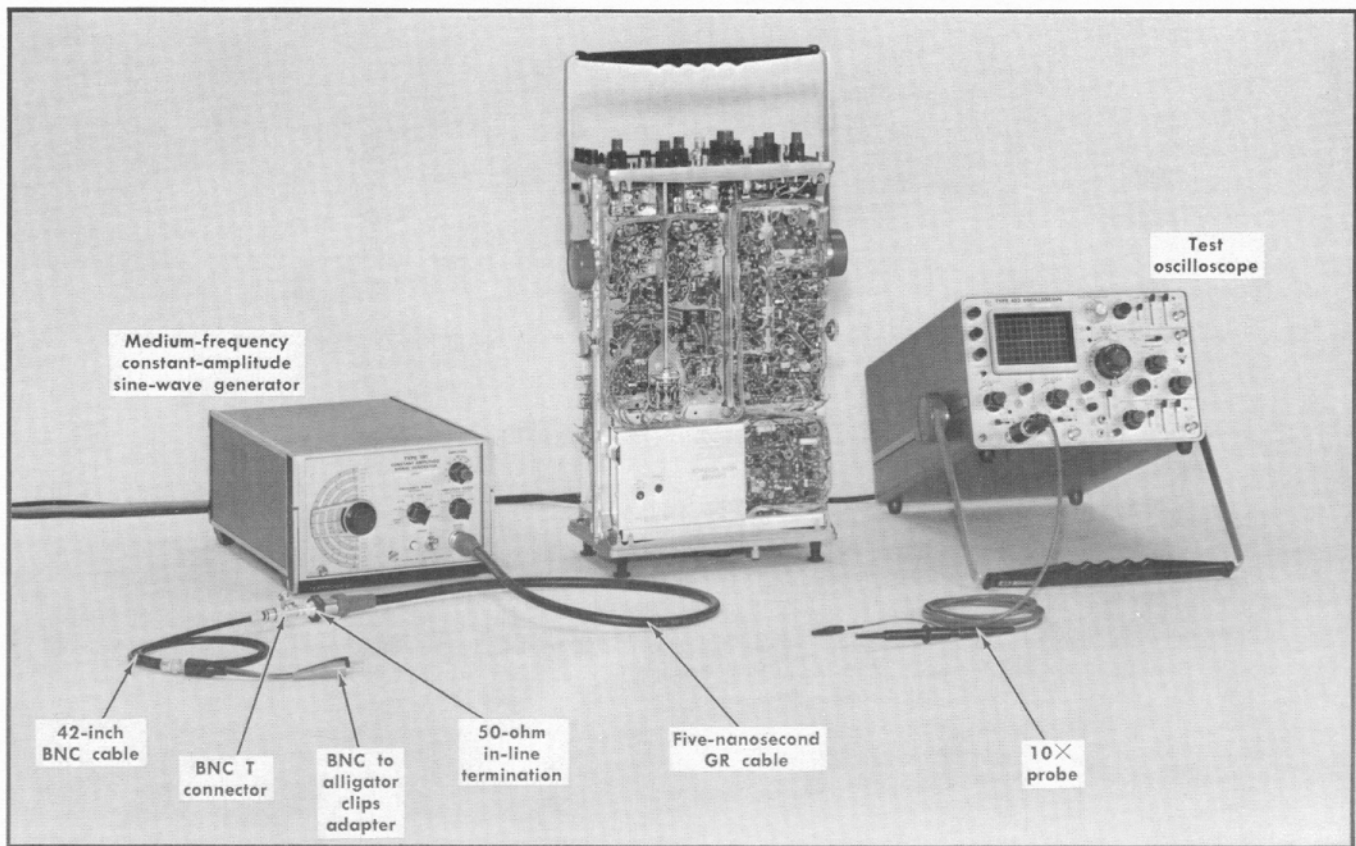

Fig. 6-67. Initial test equipment setup for steps 81 through 85.
- Test equipment setup is shown in Fig. 6-67.